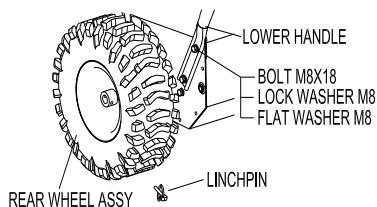

FIG 1
**2.1.1** Remove the linchpin from each side and slide the wheel out far enough to install the bolts into the lower handle. Use the M8x18 bolt in combination with a M8 lock washer and a M8 flat washer, tighten into place. (FIG 1)
**2.1.2** Slide the wheels back into the original position and replace the linchpins. (FIG 1)